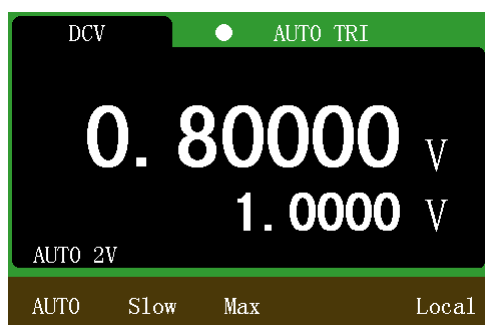

Figure 5-1 Maximum measurement interface
1. Press **MAX** to record the maximum value of the measurement, as shown in Figure 5-1. Press **MAX** again to exit the maximum value measurement function.